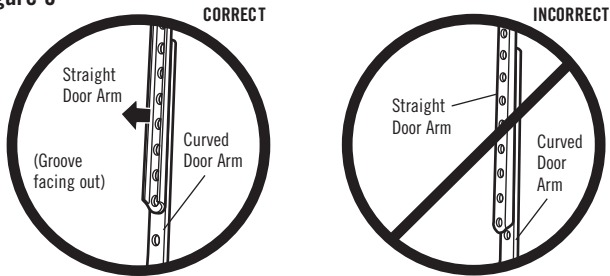

Figure 6 One-Piece Door Without Track
1. Run the bell wire from both sensors to the garage door opener. Attach the wire to the wall and ceiling with the staples (Figure 6).